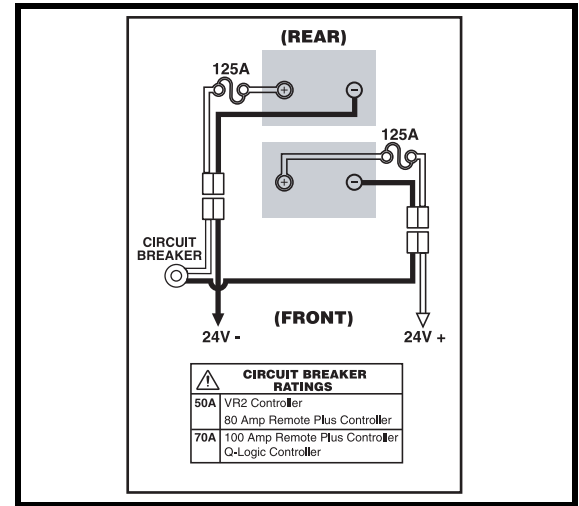

Figure 18. Battery Wiring Diagram
A battery wiring diagram is printed on a decal located on the battery door. See figure 18. Refer to the specifications table in “Appendix I - Specifications” for correct battery specifications.
5. Locate the battery quick disconnects on the frame and disconnect both of them. See figure 18.
10. Connect the battery quick disconnects according to the battery wiring diagram label located on the frame. See figure 18.